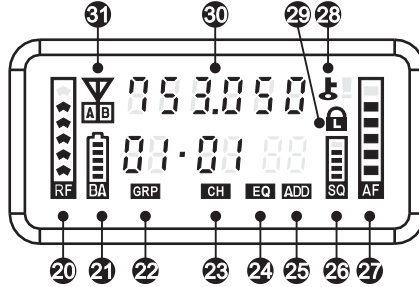

Fig. 11
1. VFD Screen displays functions and parameters. Fig. 11: